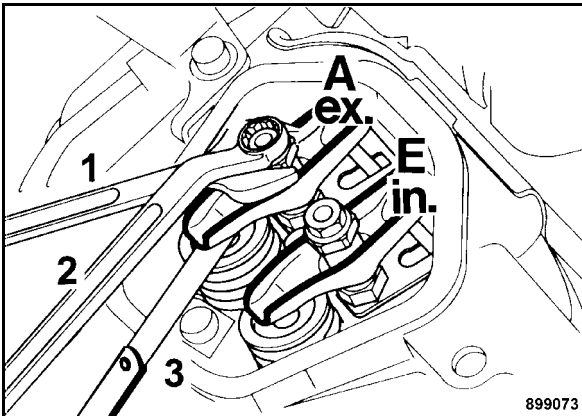

Fig. 92
- Check the gap between valve shaft and rocker arm with a feeler gauge 3 (Fig. 92).
- To adjust the valve clearance loosen the journal adjustment nut (2) and turn the rocker arm journal (1).